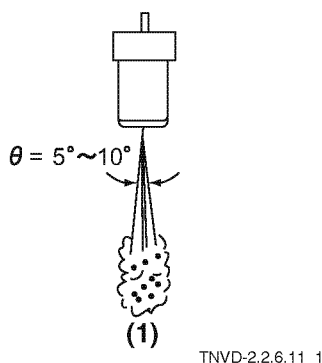

Figure 4-38
1. Operate the nozzle tester lever at a rate of once or twice a second and check for a normal spray pattern (**Figure 4-38**).